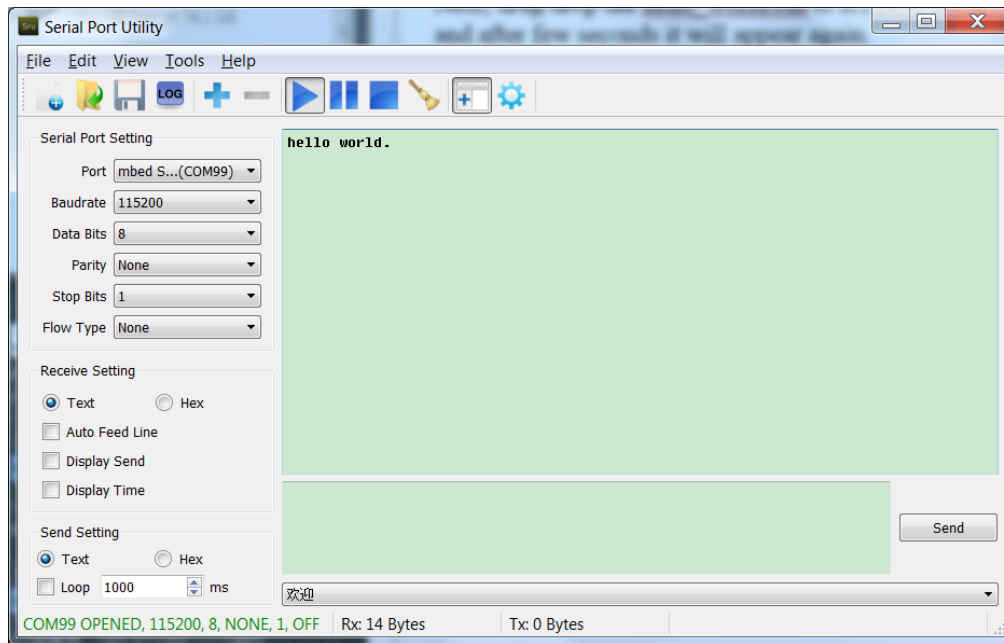

Figure 10. “hello world” be printed to the terminal
- Press SW3 to reset the EVK Board and “hello world” will be printed to the terminal. Figure 10